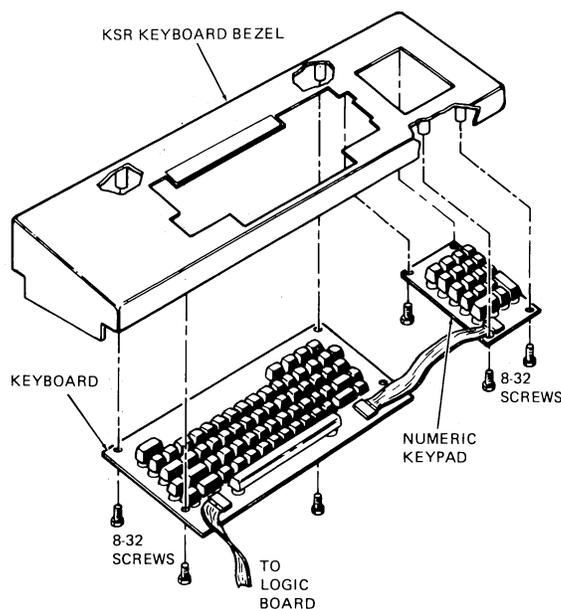

Fig. 20—TELEPRINTER 1000 KSR Keyboard and Numeric Pad Removal and Installation
- (a) Reconnect the appropriate cable connectors to the new keyboard/numeric pad (Figure 20 and foldout). Place the pad on the bezel and secure with four (8-32) screws.